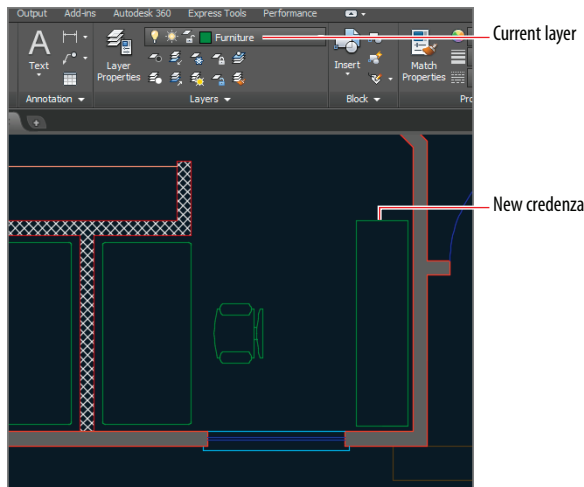

FIGURE 6.7 Drawing another credenza on the Furniture layer
6. Click the Rectangle tool on the Draw panel, and click a point a few inches (without measuring) from the lower-right corner of the room. Type **@-18,72** (or **@-45,180** for metric), and press Enter to create a credenza in Marketing (see Figure 6.7).